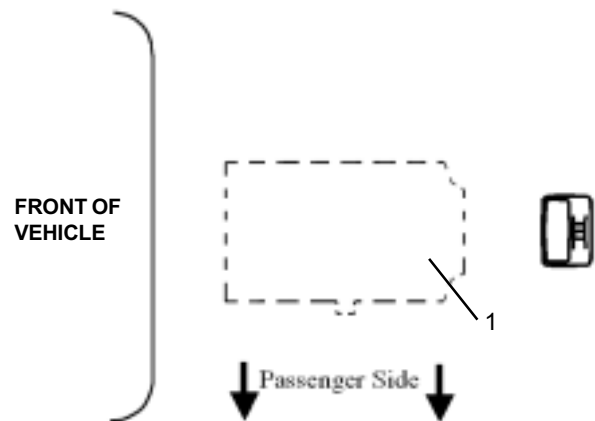

FIGURE 25
- 3.) USING A SHARP UTILITY KNIFE, CAREFULLY CUT THE HEADLINER ALONG THE LINES TRACED ON THE HEADLINER (1) AND REMOVE THE CUTOUT MATERIAL. (SEE FIGURE 25)